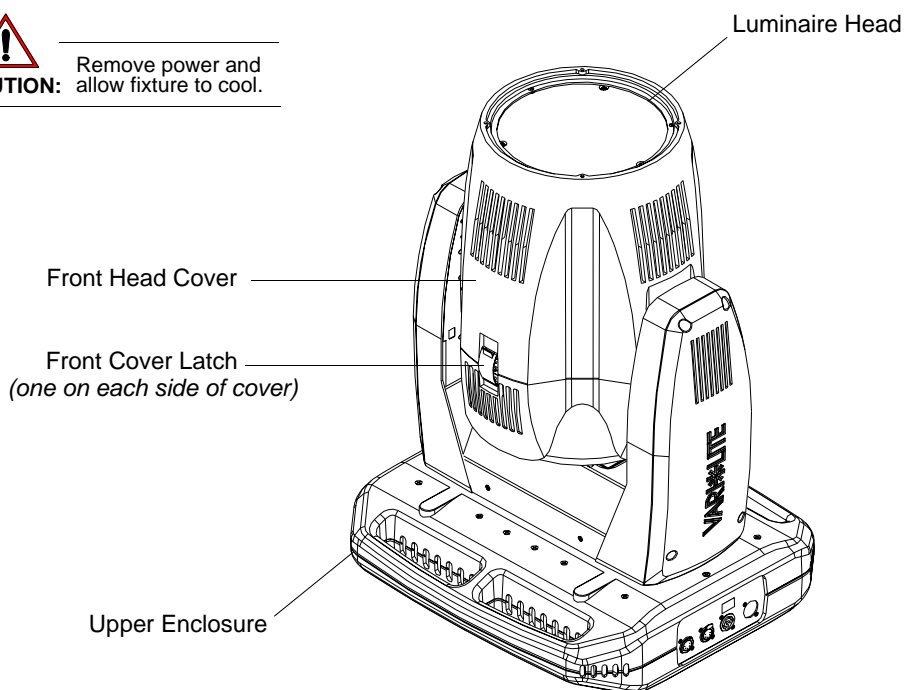

Figure 2-1: VLX Wash Luminaire
Step 2. Carefully set luminaire on upper enclosure, rotate head as shown in Figure 2-1, and engage tilt lock.